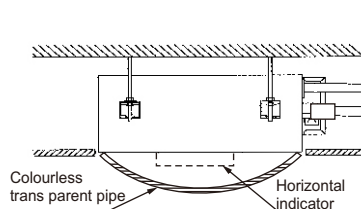

Fig. 18
- Use the transparent hose filled with water to check the lever of the main body from the four sides or diagonal line direction, the lever indicator also can check the lever from four sides of the main body .(Refer to Fig.18)